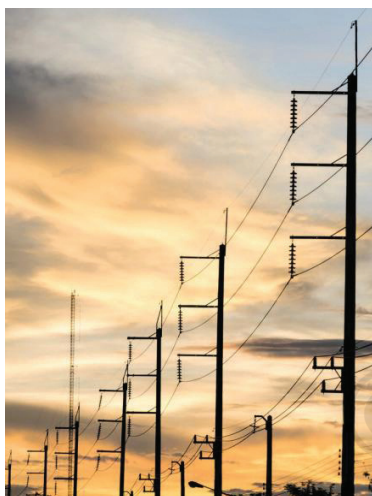

Fig. 4.22 HT Line
- Distribution lines: These include overhead lines and/or cables. The lines in rural areas are mostly radial in nature. The lines in city areas are mostly mesh-like networks often called 'ring mains', which are used to increase the reliability of supply and to meet the high density of loads (Fig. 4.22).